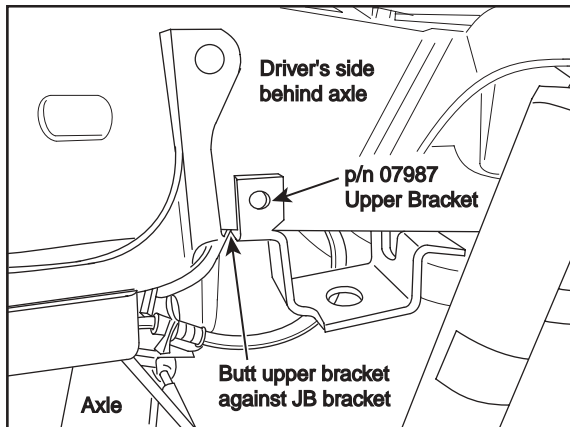

Figure 2
4. Using the two holes in the bracket as a template, drill (2) two $\frac{3}{8}$ " holes for each bracket into the side and bottom of the frame as shown (Figure 2).